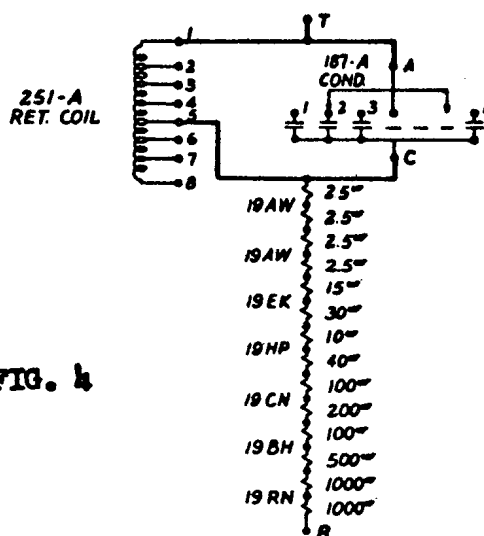

FIG. 4
6.20 The schematic of the 15KC equalizers is shown in Figure 4.